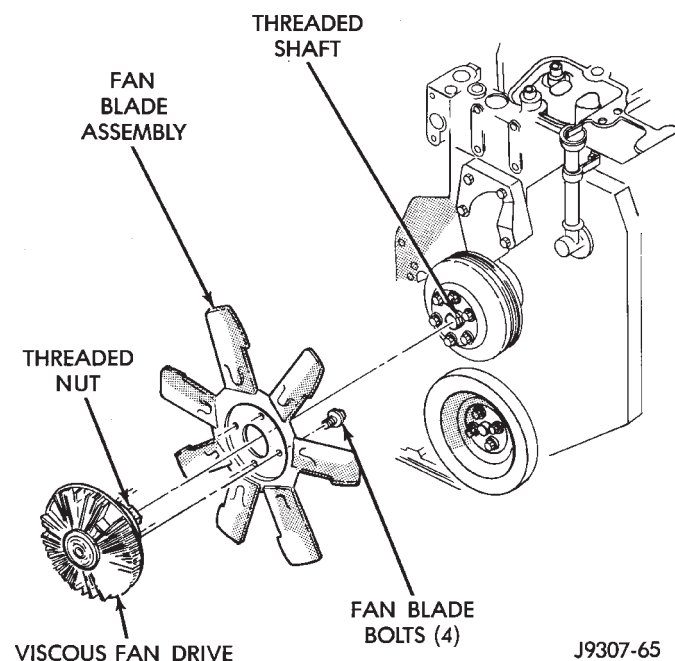

Fig. 99 Fan Blades/Viscous Fan Drive—5.9L Diesel
(3) The thermal viscous fan drive/fan blade assembly is attached (threaded) to the fan hub shaft (Fig. 99). Remove the fan blade/fan drive assembly from fan pulley by turning the mounting nut clockwise (as